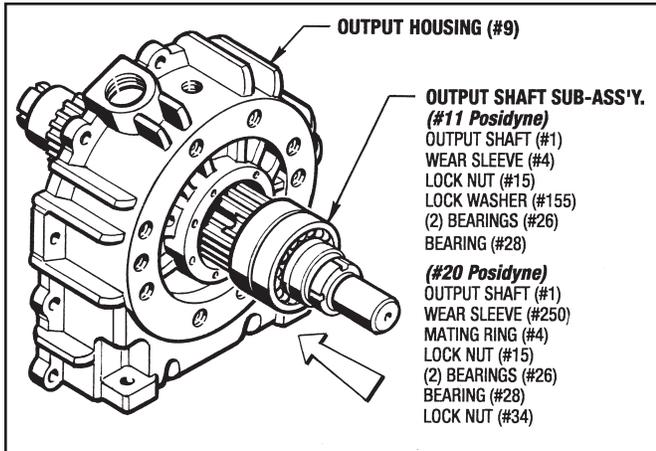

Figure 9.3 - Installing Output Shaft Sub-Assembly
1. Guide the Output Shaft Subassembly into the Output Housing (#9), as shown in Figure 9.3.